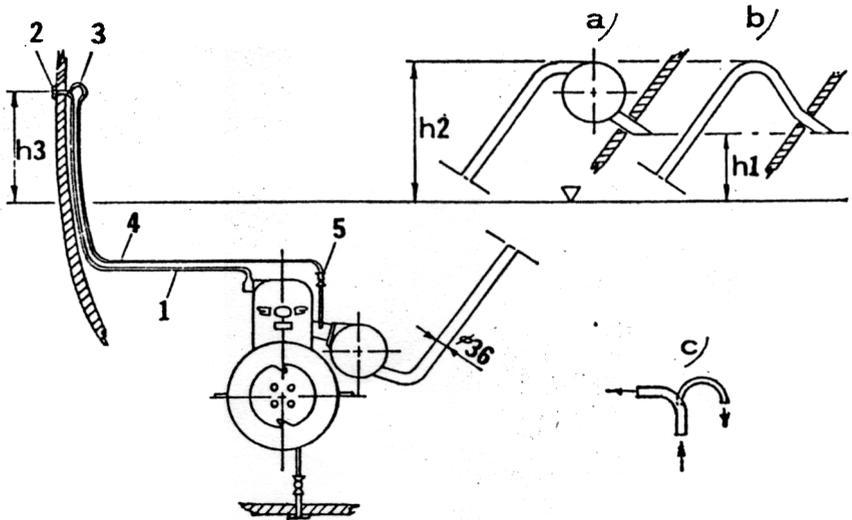

Figure 1 Cooling system
Use exhaust piping having an inside bore of 32 mm ($1\frac{1}{4}$ ""). The exhaust outlet must be situated well above the waterline and the exhaust pipe should slope towards the outlet from a point as high as possible in the craft. The highest point should be in the form of a "swan neck" (see h2 fig. 1.)
With reference to fig. 1. the control cock is disconnected from the cylinder jacket inlet union and connected to the discharge water skin fitting (2) via a branch piece (3) above the waterline (h_3). Then should the control valve be left open, on stopping the engine, no flooding can occur.